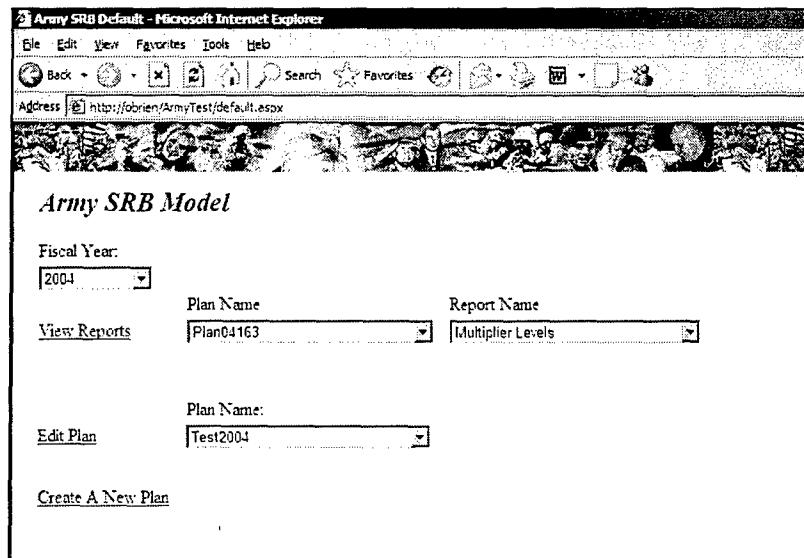

Figure 38. Main Page
3. After successful login, you will see the main page shown in Figure 38.